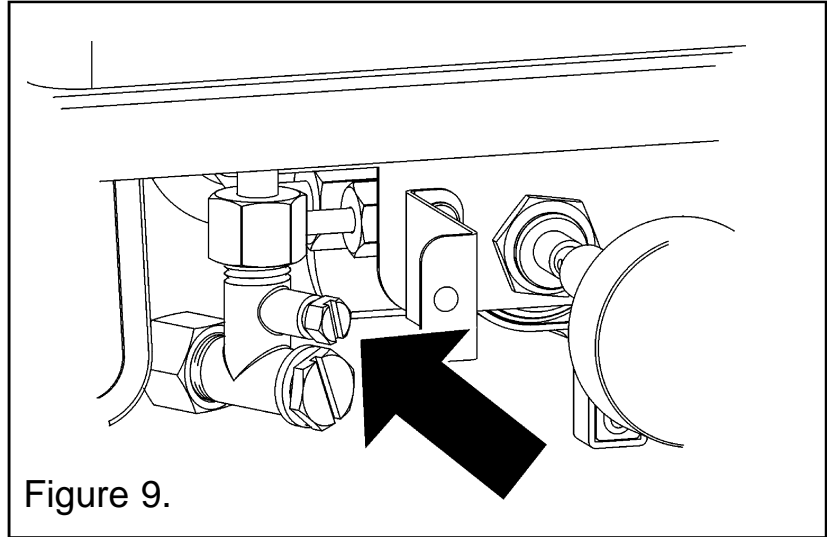

Figure 9.
1. Check the inlet pressure by fitting a pressure gauge at the test point. The test point is on the inlet 'T' connector (See figure 9). Check the pressure with the appliance alight and set at maximum output.
2. To adjust the aeration setting, loosen the two aeration shutter screws, slide the aeration shutter to the position shown in figure 9 and tighten the fixing screws.